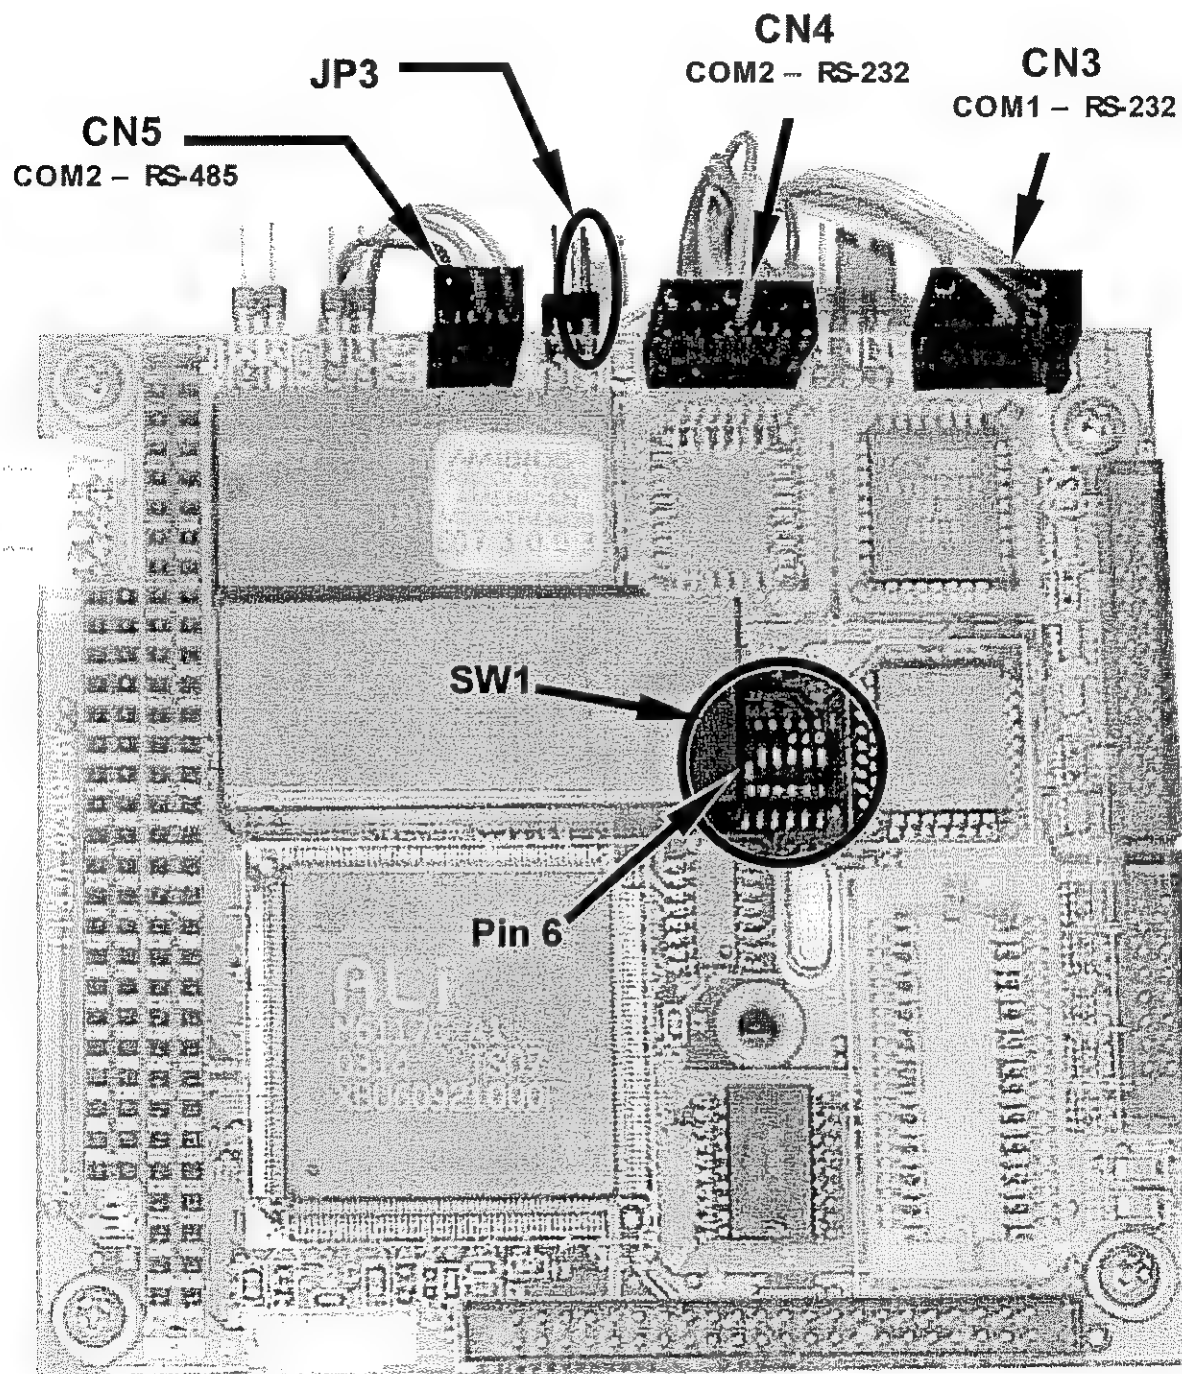

Figure 6-9: CPU card Locations of RS-232/486 Switches, Connectors and Jumpers
- To reconfigure COM2 as an RS-285 port set switch 6 of SW1 to the ON position(see Figure 6-9).
- The RS-485 port can be configured with or without a 150 Ω termination resistor. To include the resistor, install jumper at position JP3 on the CPU board (see Figure 6-9). To configure COM2 as an un-terminated RS-485 port leave JP3 open.